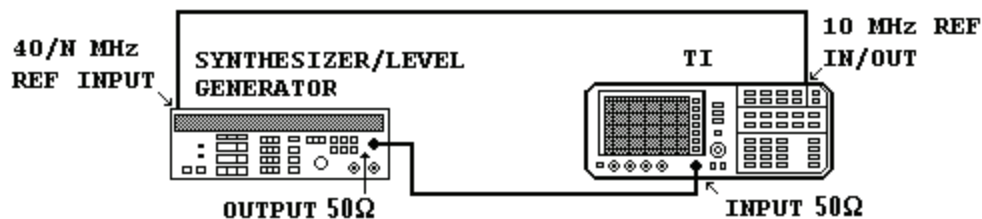

Figure 6. Frequency response - equipment setup.
- (14) Set synthesized signal generator frequency to 10 MHz.
- (15) Repeat (9) above.
- (16) Press TI **FREQUENCY** key then [**CENTER FREQ**] to 10 MHz.
- (17) Press TI **SPAN** key then [**SPAN WIDTH**] to 10 kHz.
- (18) Press **MARKER PEAK SEARCH** key.
- (19) Repeat (12) above.
- (20) Record measuring receiver indication.
- (21) Connect equipment as shown in figure 6.